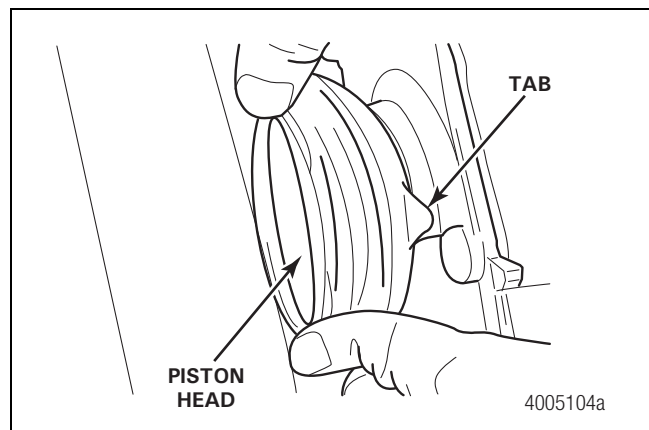

Figure 6.15
8. Carefully install a new piston boot over a piston head. The larger seal diameter with the tab goes over the piston head first. Do not install the piston boot bead into the housing assembly retaining groove at this time. Figure 6.15.